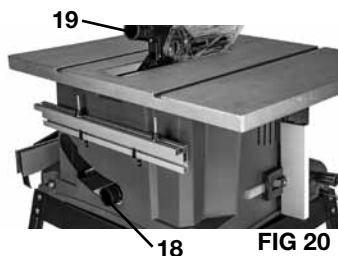

FIG 20
### SAWDUST COLLECTION (FIG 20, 21)
This table saw has a removable sawdust collector (18) below the saw blade and a dust chute (19) on the blade guard. See FIG 20. A dust collection system can be attached to either or both dust chutes to help remove sawdust from the work area.